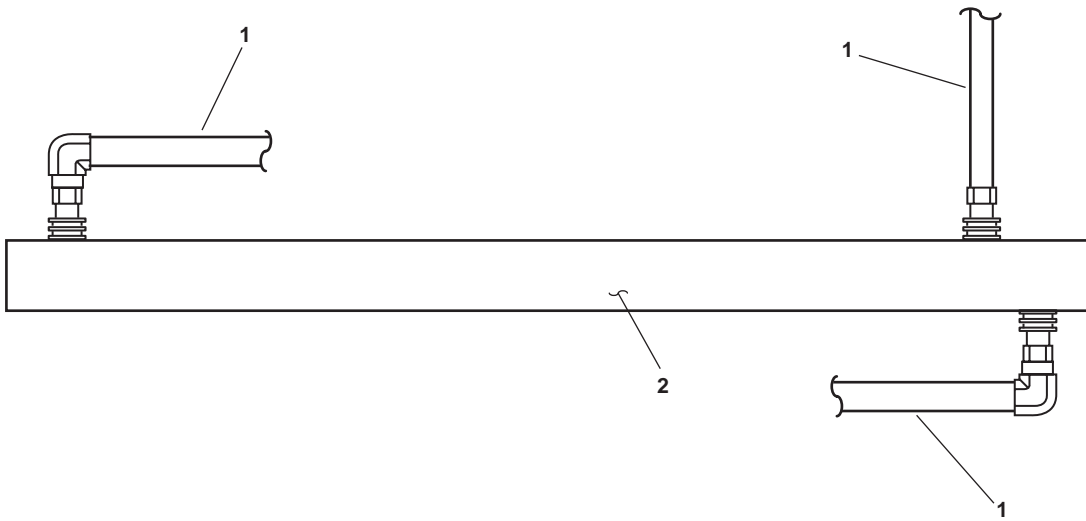

Figure 1. Reverse Osmosis Membrane and Vessel Subassembly
3. Label and disconnect all hoses (figure 1, item 1) from the applicable membrane and vessel subassembly (figure 1, item 2).
2. Install the hoses (figure 1, item 1) on the applicable membrane and vessel subassembly (figure 1, item 2) using the labels from step 3 of Removal as a guide. Tighten finger tight plus one ¼ turn. Discard the labels.